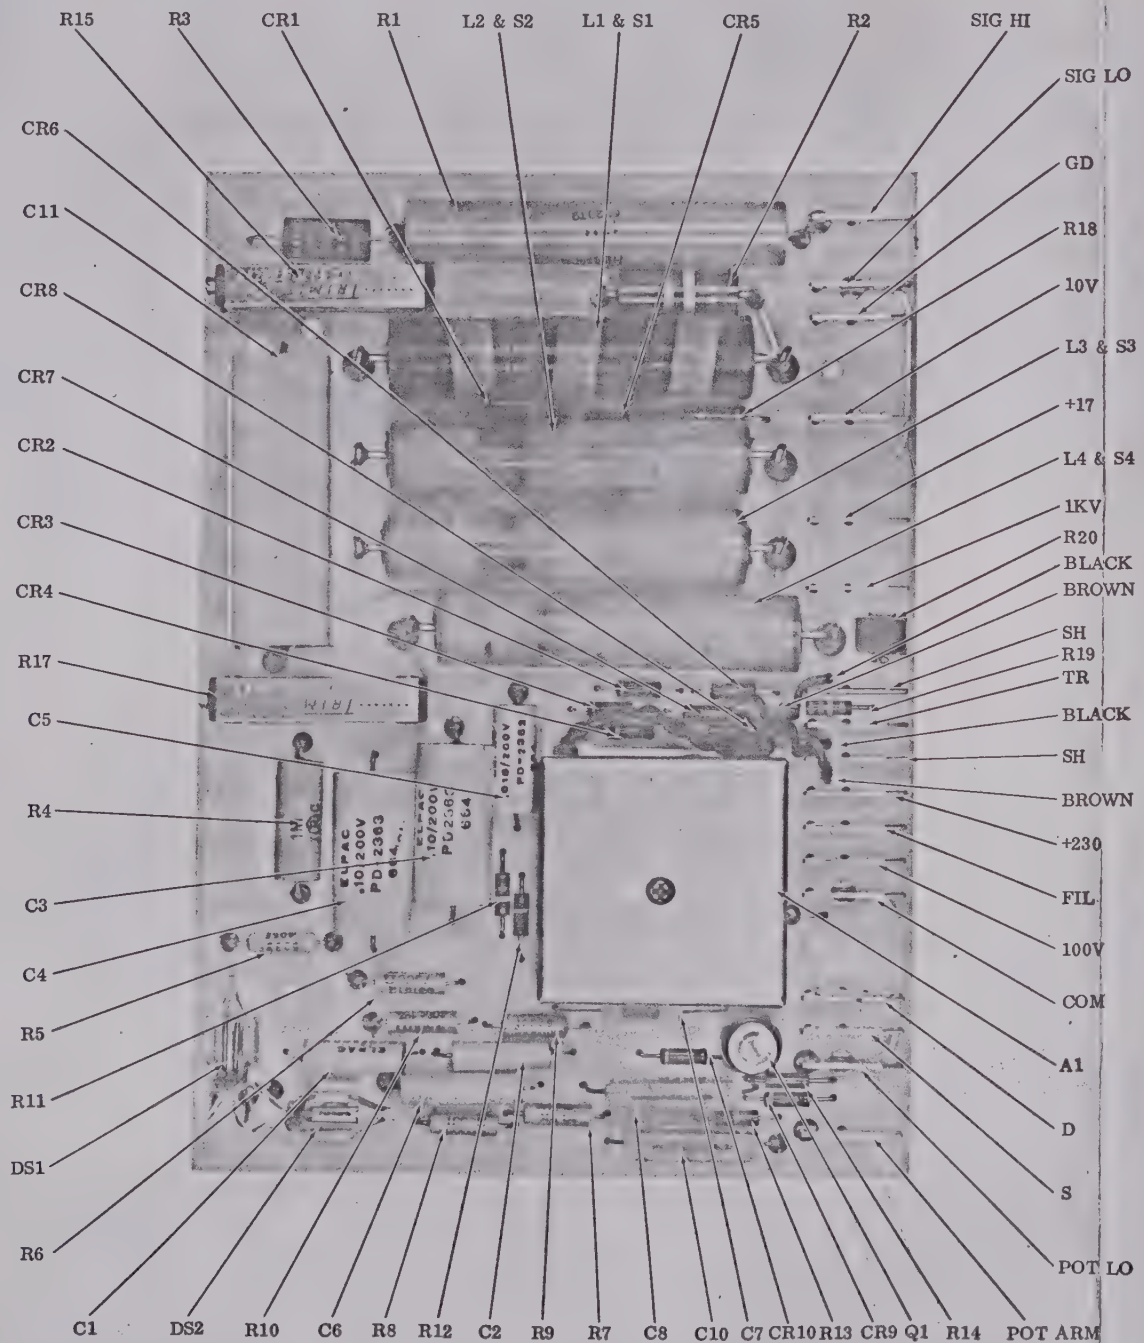

Figure 6-4. Attenuator.
6. If the oscilloscope indication is bowed, in either direction, vary the chopper compensation adjustment (R20 in figure 6-4) for an assembly output as flat as possible.